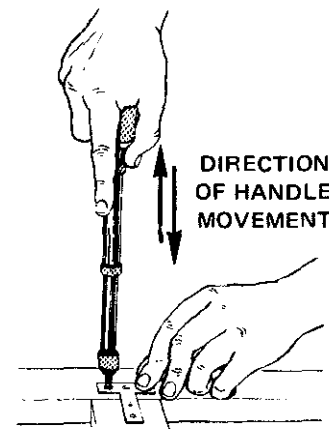

Fig. 10-59 Drilling.
4. Place the drill point on the mark for locating the hole and begin drilling as shown in figure 10-59. Apply pressure to the handle in line with the drill point, or else the point can bend or break.